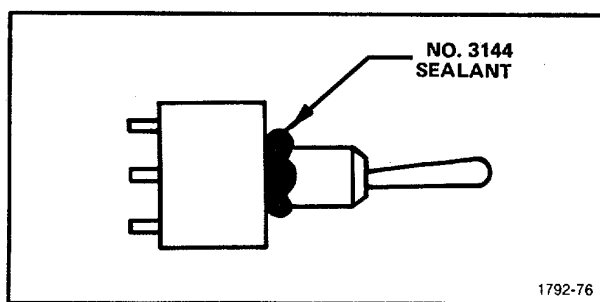

Figure 5-23. Application of sealant to RECORD toggle-switch bushing.
21. Install the Record control (see Figs. 5-23, 5-24, and 5-25)
1. Form a bead of No. 3144 sealant around the bushing/switch body interface as shown in Fig. 5-23.